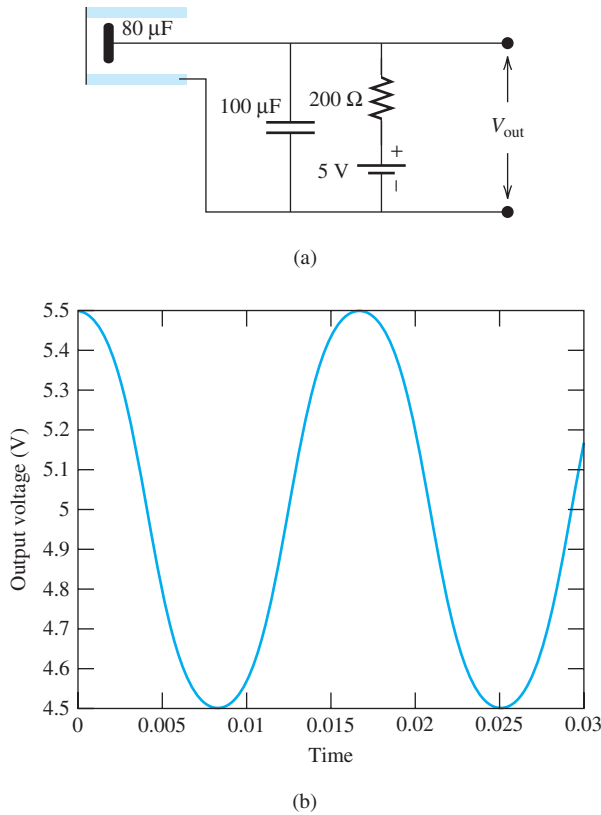

FIGURE P11.15 (a) Capacitive microphone circuit for Problem 11.15; (b) Voltage output plot for Problem 11.15.
11.15 (H)* Figure P11.15(a) shows a capacitive microphone output. The voltage output of the circuit is shown in Figure P11.15(b). What is the change of capacitance due to the sound pressure on the diaphragm?